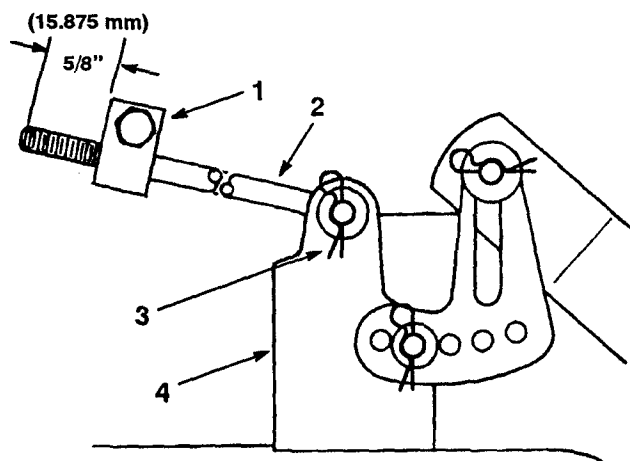

Figure 51
6. Measure the length of the rod extending out the front of the adjusting block on the sides of the chassis (Fig. 51). If the rod length is not 5/8" (15.875 mm), remove the hair pin cotter and washer from the end of the rod (Fig. 51), and turn the rod until the 5/8" (15.875 mm) dimension is obtained. Then install the end of the rod into the hole in the mower mount and secure in place with washer and hair pin cotter. Repeat this procedure on the opposite side of the mower.
8. Raise or lower the front of the mower by adjusting the length of the long rod and reinstalling it in the mower mount with the washer and hair pin cotter (Fig. 51). Adjust one side, then the other. After adjusting both rods, check the front-to-rear slope again. Continue to adjust the rods one turn at a time until the front of the mower is $1/8$ " to $3/8$ " (3.175 mm to 9.525 mm) lower than the rear of the mower.